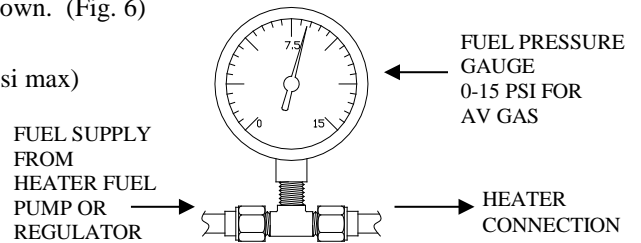

Figure 6
4.1.3 Install the fuel pressure gauge (0-15). Tee into as shown. (Fig. 6)